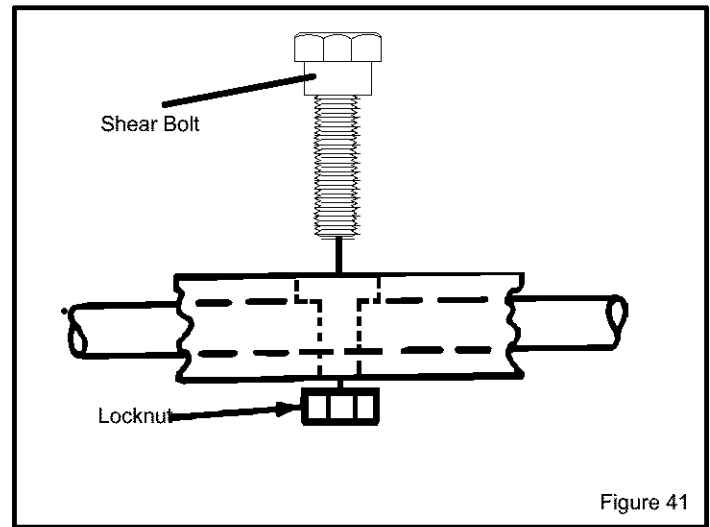

Figure 41
3. Align the hole in the auger with the hole in the auger shaft. Install new shear bolt and locknut found in toolbox located on belt cover. (See Figure 41)